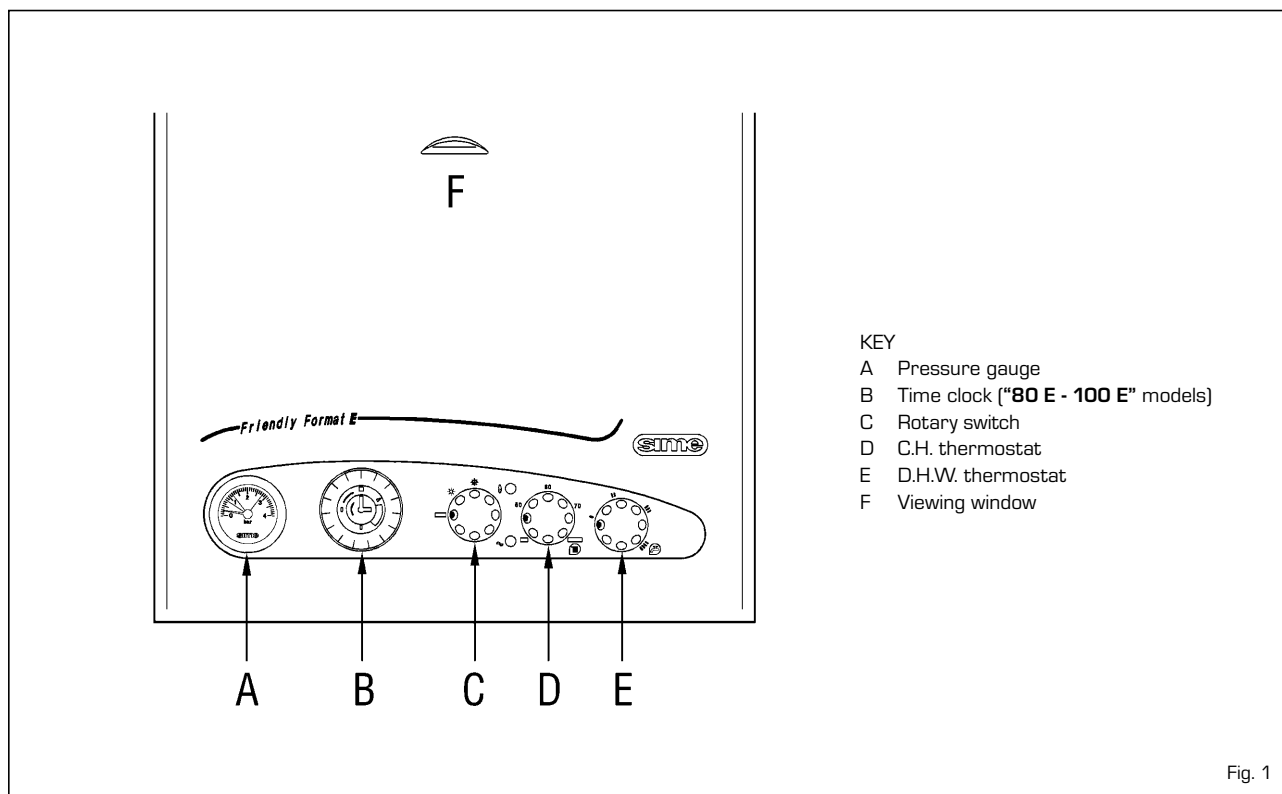

Fig. 1
1.3.1 To light the appliance (see fig. 1)
- Turn the rotary switch (C) to SUMMER (water only) position " * " .
- Switch on the electricity supply and full open any D.H.W. tap. The burner will light. Check that the burner has lit by looking through the viewing window (F). If the burner fails to light, turn the rotary switch to " * " position and release it immediately; then turn it to the SUMMER position: the burner should now light. Turn off the tap.
- Check that the room thermostat and time clock (if fitted) are calling for heat. Turn the heating potentiometer (D) to maximum (fully clockwise).
1.3.2 To turn the appliance off (see fig. 1)
The gauge (A fig. 1) on the fascia panel indicates the approximate system pressure. If the normal running pressure is seen to decrease over a period of time there is a water leak and you should consult your installer or service engineer.